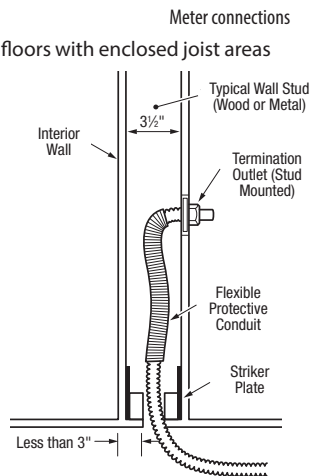

Figure 4.12 Use of Flexible Protective Conduit
3. At termination points using the HOME-FLEX® termination flange, HOME-FLEX® Flexible Protective Conduit should be installed to protect the CSST in the area between the striker plates and the outlet. (Figure 4.12)